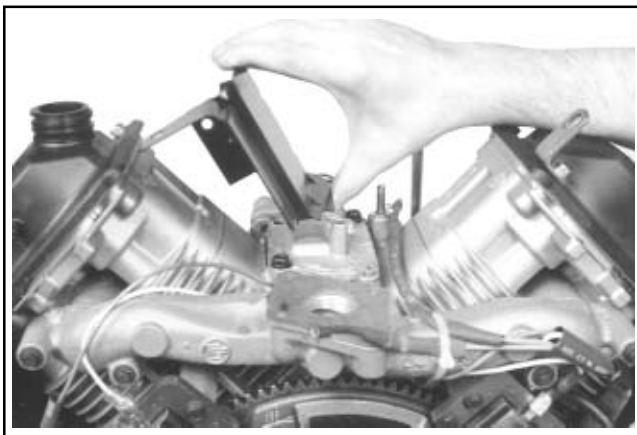

Figure 11-59. Installing Inner Baffles.
7. Install the inner baffles using the two remaining hex. flange screws (see Figures 11-59 and 11-60) and finger tighten. **Do not** torque the screws at this time; they will be tightened after the blower housing and outer baffles are installed.